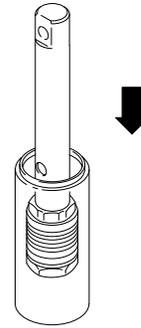

Fig. 32
- Carefully slide the piston assembly into the top of the sleeve. See Fig. 32.